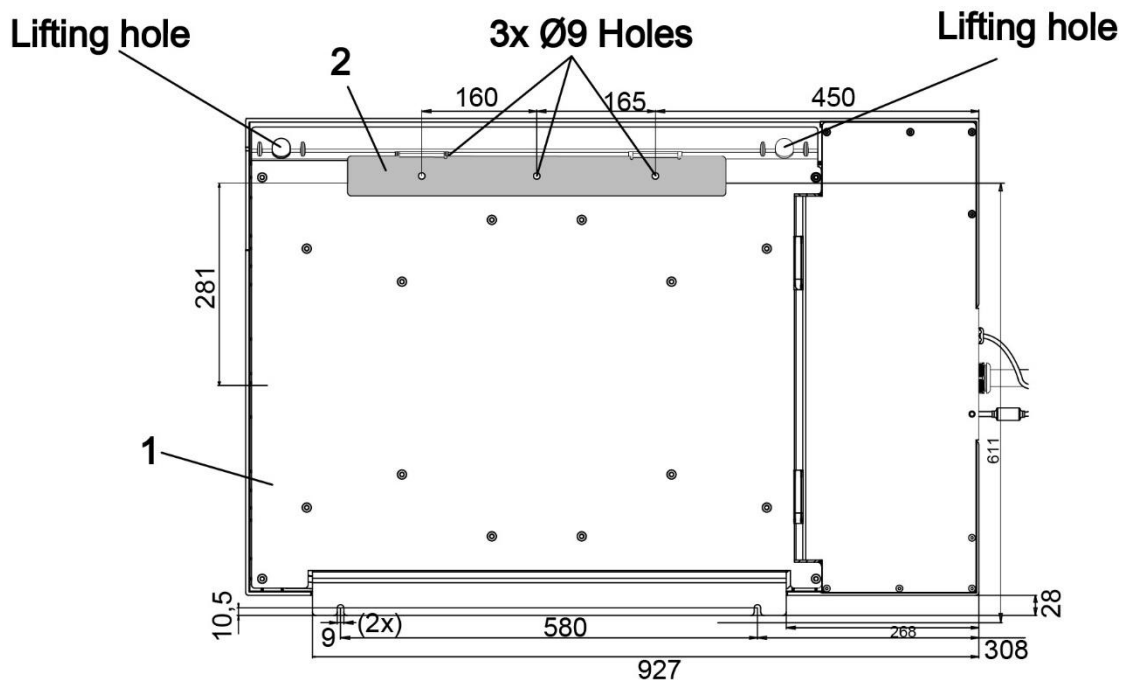

Figure. 24 Installation of WPP – Rear View
2. Remove the metal mounting strip (2) from WPP packaging (see Figure. 24).
3. Mark and drill three holes on the mounting wall/fixture in order to install the mounting strip (2). The mounting strip has 9 mm diameter holes.
4. Mark and drill two holes on the mounting wall/fixture in order to attach the WPP (1). The mounting strip has 9 mm diameter slots.
5. Attach the mounting strip (2) to the mounting wall/fixture using suitable stainless steel screws e.g. 3x M8 hexagon head screws. Make sure that the screws are tightened firmly.
6. Hang the WPP (1) onto the mounting strip (2). Refer to section 4.2.1 Safety Instructions.
7. Attach the WPP (1) to the mounting wall/fixture using suitable stainless steel screws e.g. 2x M8 hexagon head screws. Make sure that the screws are tightened firmly.